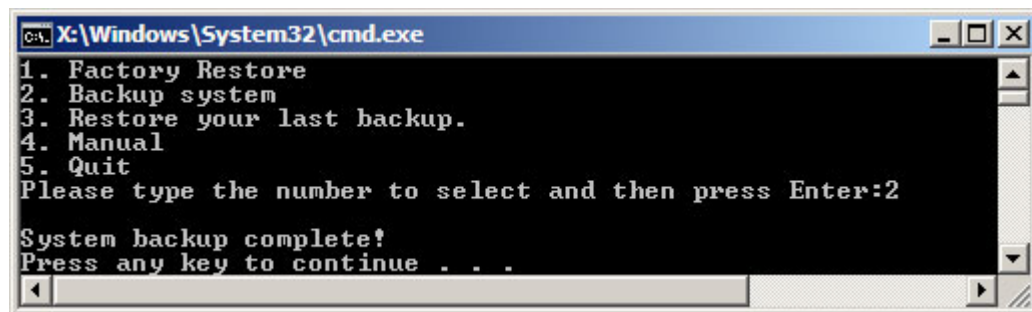

Figure B-39: System Backup Complete Window
Step 6: The screen shown in **Figure B-39** appears when system backup is complete. Press any key to reboot the system.